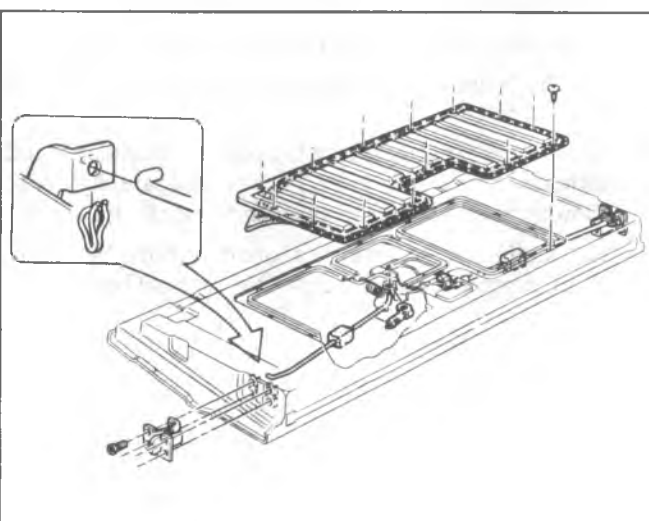

Fig. 2D-68--Latches and Rods
2. Disconnect side latch remote control rods from center control by removing retaining clips. See figure 2D-68.